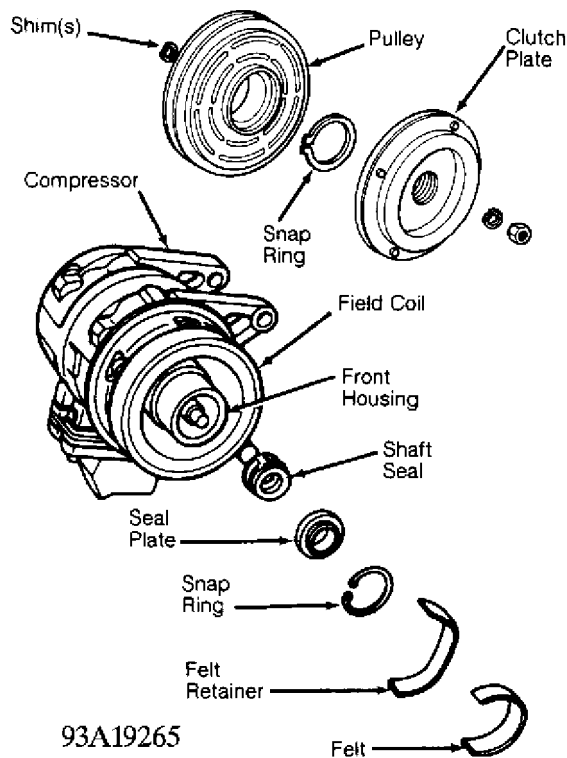

Fig. 13: Exploded View Of Compressor (Nippondenso 10-Cylinder)
2) Remove snap ring, bearing, and seal (if equipped) from pulley. See Fig. 13. Remove screw for clutch coil lead. Remove snap ring and clutch coil.